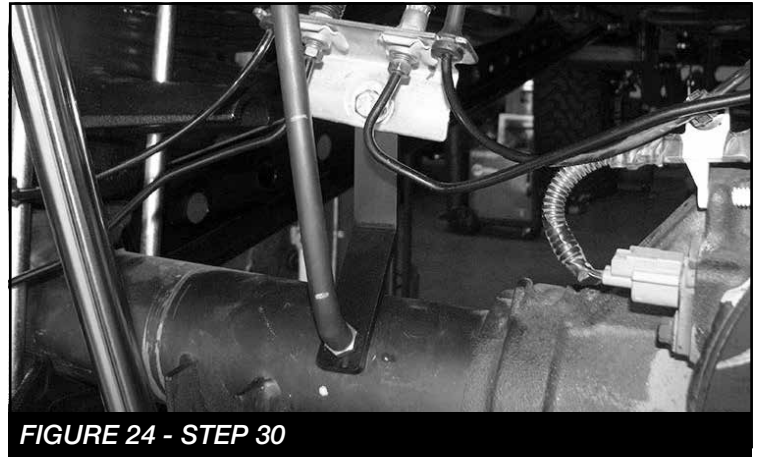

FIGURE 24 - STEP 30
30. Remove the diff breather hose from the rear axle. Remove the fitting that holds the brake line bracket on the axle. Install FT30059 (Brake line bracket) using the factory fitting. Next, install the factory bracket to the FT30059 using the supplied 5/16" hardware. Torque to 29 ft-lbs. **SEE FIGURE 24**